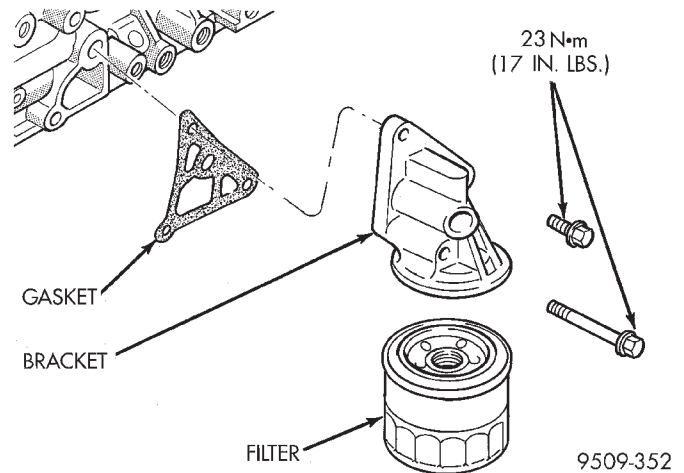

Fig. 112 Oil Filter and Bracket
- (1) Check the oil filter mounting surface. The surface must be smooth, flat and free of debris or old pieces of rubber (Fig. 112).
- (2) Check bracket for cracks and oil leaks.